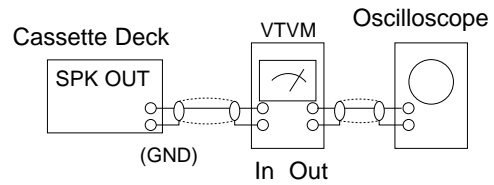

Figure 1-7
- 3) The cassette deck shall be connected as shown in figure 1-7.